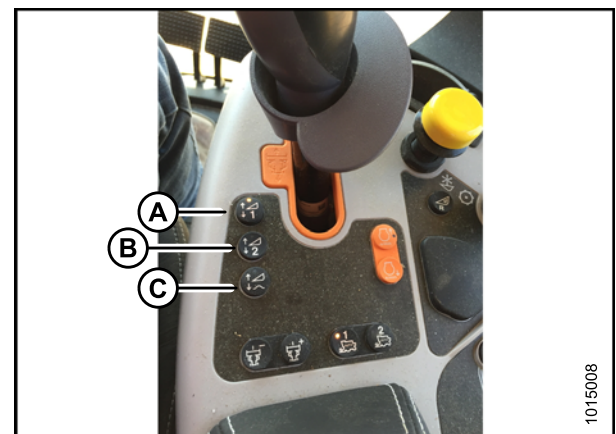

Figure 3.302: New Holland Combine Controls
5. Select one of the auto height set point buttons shown in Figure 3.302: *New Holland Combine Controls, page 195*.